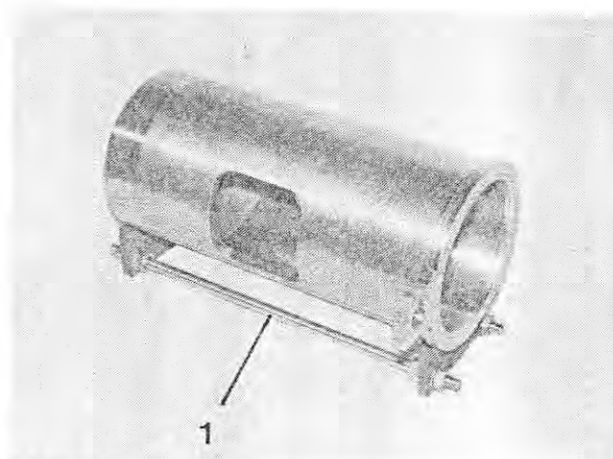

Fig. 213
15. When machines with a direct connecting or a hopper are used, place the intermediate cylinder in the support (Figure 213/1).
The intermediate cylinder must only be placed in the support (Figure 213/1).